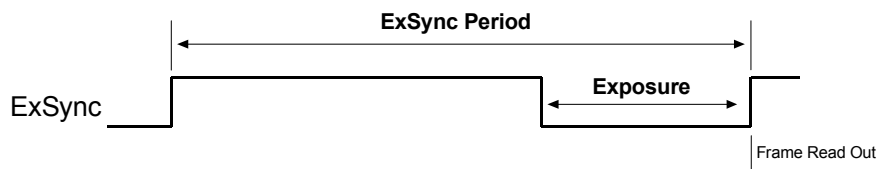

Figure 3-2: ExSync, Level-controlled Mode
- In **ExSync, level-controlled** mode, the exposure time is determined by the time between the falling edge of ExSync and the next rising edge. The pixels are exposed and charge is accumulated only when ExSync is low. The frame is read out and transferred on the rising edge of the ExSync signal (see Figure 3-2).